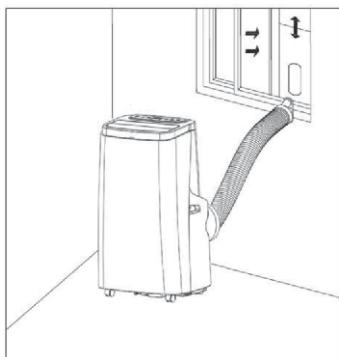
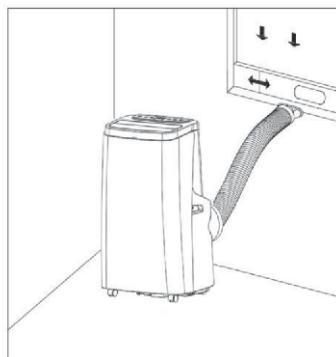

Figure 5
Figure 6
2. Elongate the exhaust pipe and snap the flat end of the exhaust pipe joints into the hole of the window sealing plate assembly (as shown in Fig.5 and Fig.6).